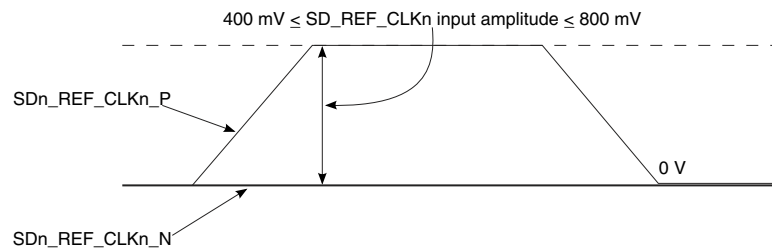

Figure 41. Single-ended reference clock input DC requirements
- The SDn_REF_CLKn_P input average voltage must be between 200 and 400 mV. Figure 41. on page 128 shows the SerDes reference clock input requirement for single-ended signaling mode.